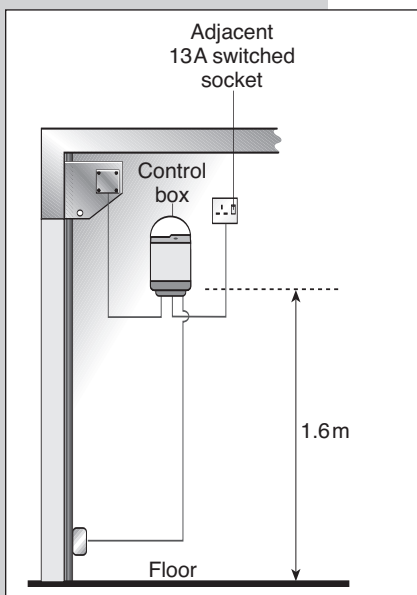

Fig 18
- It is mounted high enough to be out of reach of children (see Fig 18).